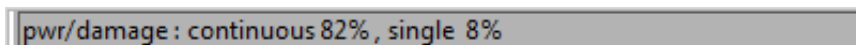

Figure 5.7: Simulation of current wave average power ratio
- the message text box at the bottom right part of the main panel displays a **simulation**. Based on the current trigger frequency (1/ *TXtal* frequency for continuous mode) and the current software control settings, the average power, expressed as a ratio of the crystal power limit are shown in the message banner (see Figure 5.7).